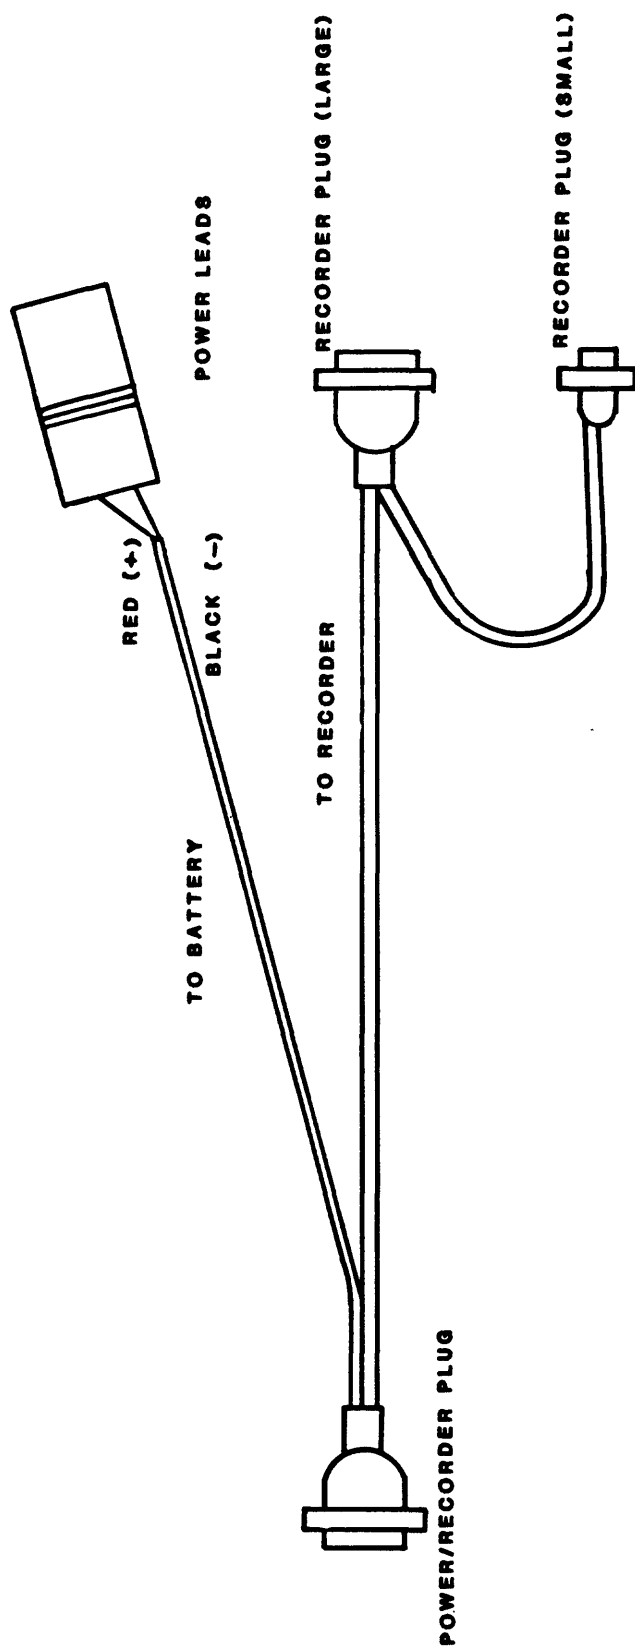

Figure 12.---Power-and-recorder cable assembly.
2. Connect the power-and-recorder cable assembly (fig. 12) to the Minimonitor and to a Leupold and Stevens digital input-output recorder.